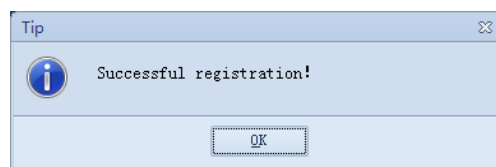

Fig. 3-37 Registration complete prompt
- 2) If registration code is valid, a dialog box prompt successful registration will pop up, as shown in Fig. 3-37. After registration, re-power on the driver.